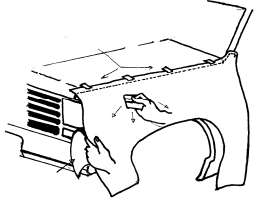
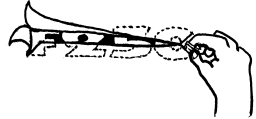

FIG. 1
FIG. 2
2. Register material to appropriate vehicle panel. Registering is simply placing Camoclad against/on selected panel and aligning material in such a way to cover the panel and to allow approximately ½ inch overlap beyond leading edge. Once material is properly positioned, use masking tape to secure in place. Tape will also serve as a hinge. (See fig. 1)
3. Starting at the tape-hinged edge of material, gradually separate the liner backing from Camoclad (see fig. 1) allowing the material to drape over the panel.
4. Initially, using mild pressure, start squeegeeing the material from the taped edge towards the extremities working out any wrinkles and bubbles. Lift material and re-squeegee as necessary (see fig. 1). If obstructions such as emblems, trim or moldings are encountered, apply techniques as shown. (See fig. 2) (b) Using firm pressure re-squeegee